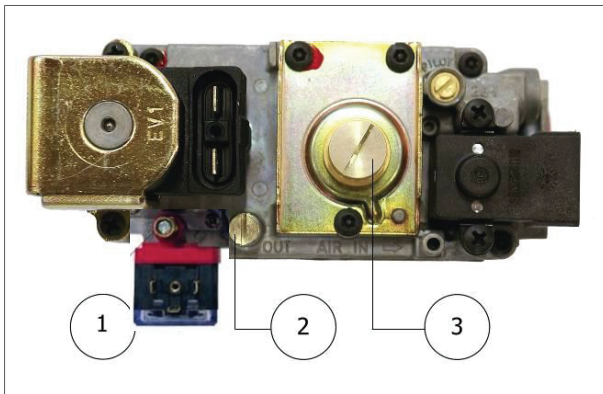

Figure 13 - Main parts of the gas valve
The flow of gas to the burner is controlled with a gas valve. The valve must be set to the correct burner pressure. The minimum gas pressure switch is mounted on the right side of the measuring point (figure 13).
2. Connect the pressure meter to the measuring point (figure 13 - 2).
6. If the burner pressure does not correspond with the specified value, turn the adjuster screw (figure 13 - 3) to the specified value.
- b. Measure the burner pressure (figure 13 - 2).